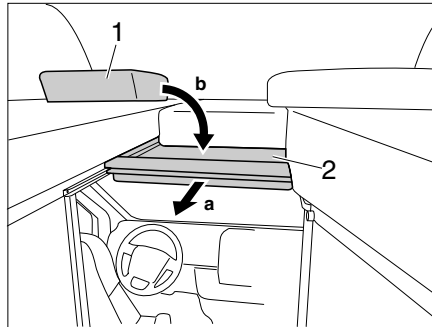

Fig. 60 Driver's cabin partition
- Pull the bed foundation (Fig. 60,2) to the front at the handle.
- Place the cushion (Fig. 60,1) onto the bed foundation.
- Lay the cushion (Fig. 60,1) to the side
- Slide the bed foundation (Fig. 60,2) to the rear.